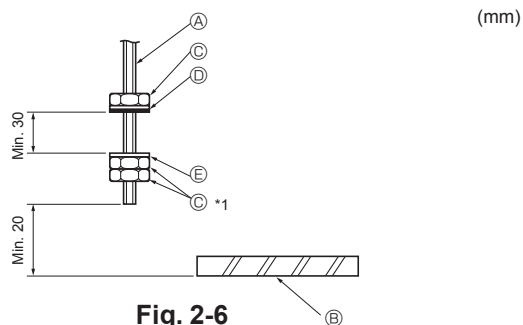

Fig. 2-6
- (D) Ceiling panel
- (E) Rafter
- (F) Beam
- (G) Roof beam
- (H) Use inserts rated at 100 - 150 kg each
- (I) Suspension bolts M10 (3/8") (procure locally)
- (J) Steel reinforcing rod
- (K) C channel
- (L) Channel suspension bracket
- (M) M10 suspension bolt
2.4. Unit suspension procedures (Fig. 2-6)